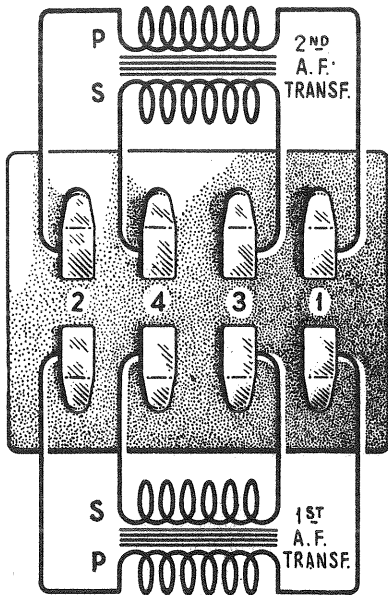

Figure 9—Internal connections of audio transformers
- (f) Defective wiring in audio system. Figure 9 illustrates the internal connections of the audio transformers.
The audio transformers may be tested for continuity when not connected in circuit by using the method described in Part III, Sec. 3, and by referring to Figure 9, which illustrates the internal connections of the audio transformers.